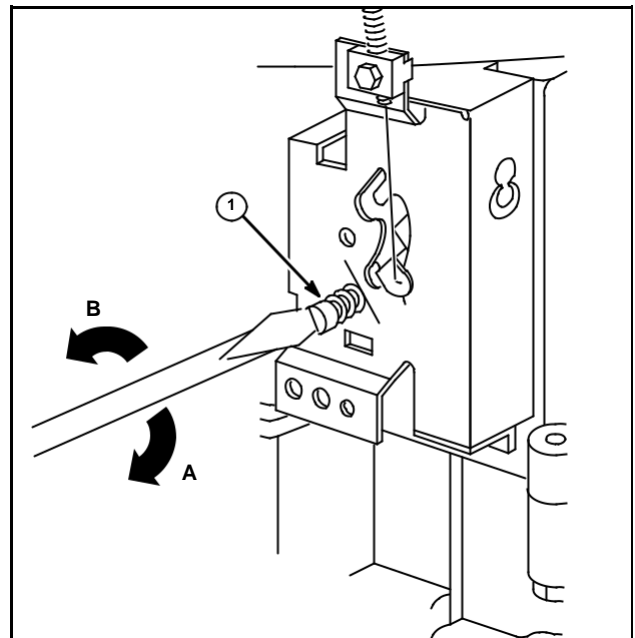

Fig. 64
3. Hold throttle in closed position with finger, adjust idle speed screw (1) to 1550 RPM.
5. Set remote control to 1750 RPM. Turn screw (1) in until it contacts remote control lever, Fig. 64.